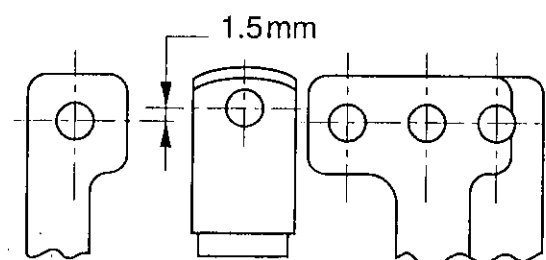
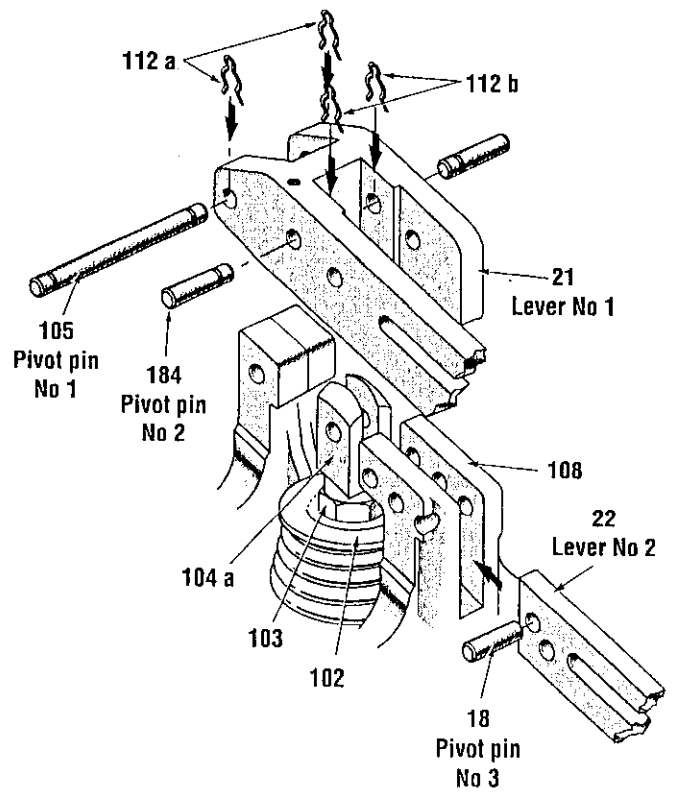

Figure 17 - Plug stem pre-adjustment.
Figure 21 - Coupling detail of levers No 1 and 2.
5. Install packing, positioning the skive cut of each packing ring 120° away from the cut of an adjacent ring. Slightly push down rings one after another using a tube 1/2" sch. 160 size. Install packing follower (9) on plug stem.
6. Install actuator bracket (108) and secure it with the two nuts (8a). Install packing flange (10) on plug stem. Hand tighten the two packing flange nuts (8b) adding one full turn with a wrench.
7. In the following sequence, place grommet plate (101), spring (106) and its spring button (102). (See position figure 21). Screw nut (103) and clevis (104a) on plug stem. Adjust nut and clevis without locking them together until the clevis holes are about 1,5 mm above the alignment of the pin holes in the actuator bracket (108). (See figure 17).